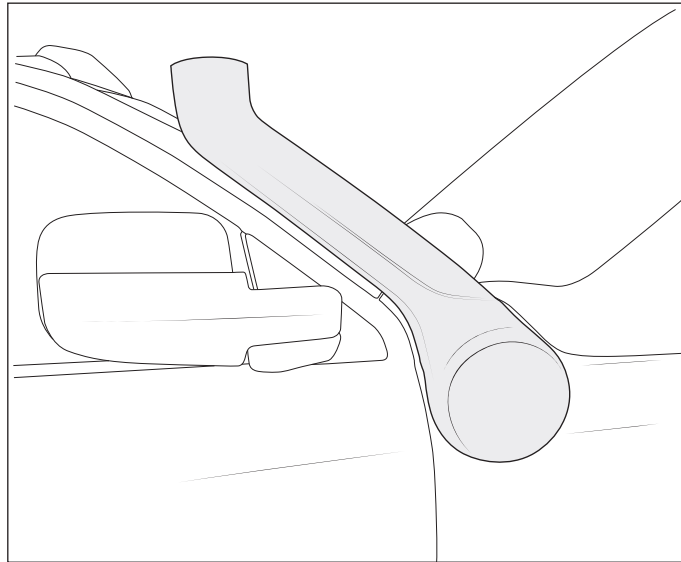

Figure 7
3. Bring the assembled fender and snorkel body back to the truck and ensure that it is sitting against the fender and the A-pillar appropriately (fig. 7).